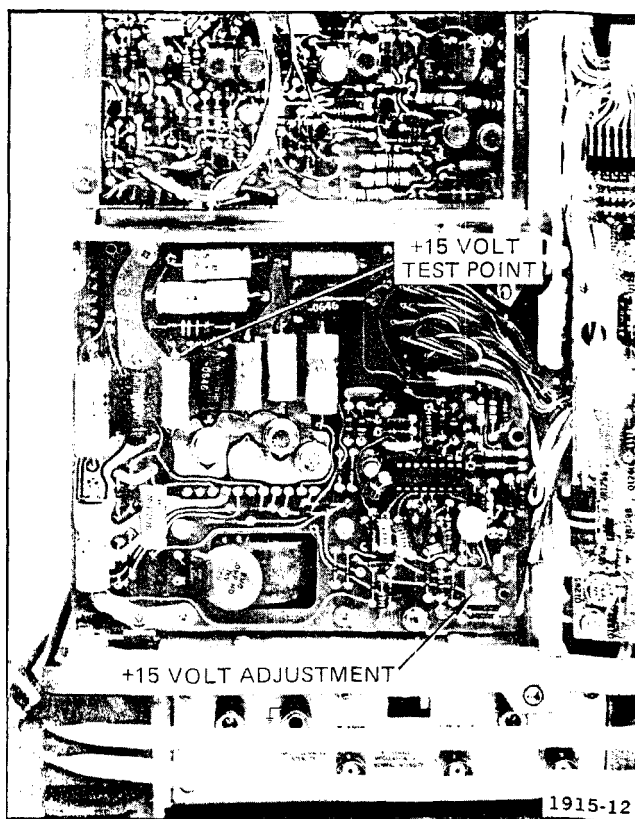

Fig. 5-1. +15 volt adjustment locations.
a. Connect the Precision DC Voltmeter between the +15-volt power supply test point (positive lead of C1974 on Power Supply Secondary circuit board; see Fig. 5-1) and ground.
d. ADJUST—+15 Volts adjustment R1940 (see Fig. 5-1) for a meter reading of +15 volts, ± 0.037 volt.